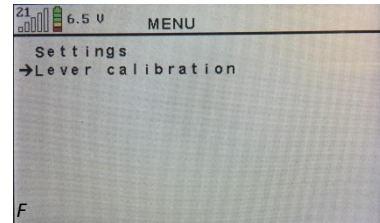

Figure: 18
- Switch on the remote control and activate the remote control menu by pressing the ✓ button (see figure 15). Press the ⏪ button to move the arrow in the display until it points to 'Lever calibration' (see figure 18).